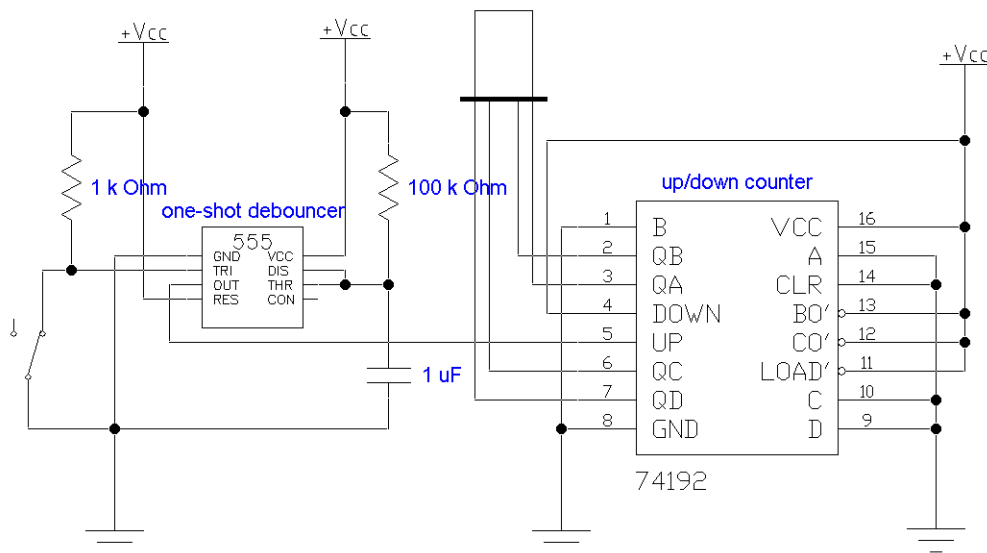

Figure 5.1: EWB circuit diagram
- ❗ Use *Electronics Workbench* to simulate the circuit shown in Fig. 5.1. Initially, connect a 74192 and a four-input BCD-decoded seven-segment display, and connect a switch that will alternately toggle between a V_{cc} and the ground directly to the “Up” pin on the IC. A virtual switch toggles cleanly and instantly and will require no de-bouncing.
- ❗ Now complete the full circuit of Fig. 5.1 by connecting the 555-based debouncer. Choose external RC values so that the width of a pulse generated by the monostable is longer than about 50ms, a typical settling time of a real micromechanical switch. Use the virtual oscilloscope to verify that your calculations are correct and the pulse width is as expected.